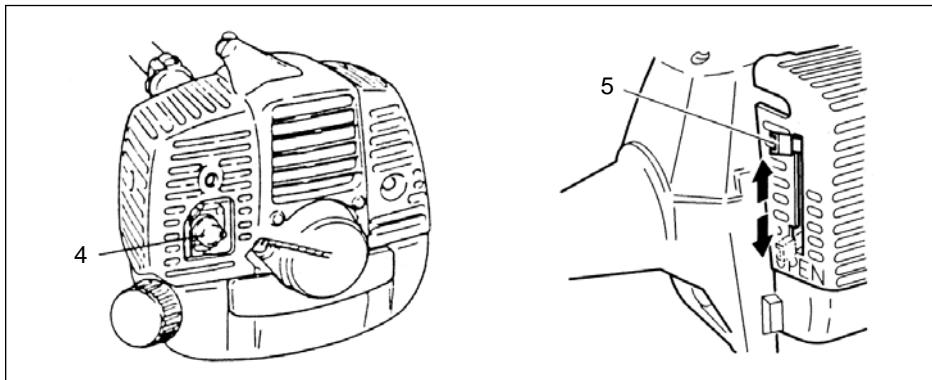

Fig.2-2C
- \*Push priming bulb (4) several times so that fuel flows through the bulb or return pipe. (If so equipped)(Fig. 2-2C, 3)
2. With the safety trigger (2) pressed (if so equipped), pull throttle trigger and push throttle lock (3), then slowly release the throttle trigger first, then the safety trigger. This will lock the throttle in starting position.
3. Set choke lever to CLOSED position (5).
(Fig. 2-2C, 3)